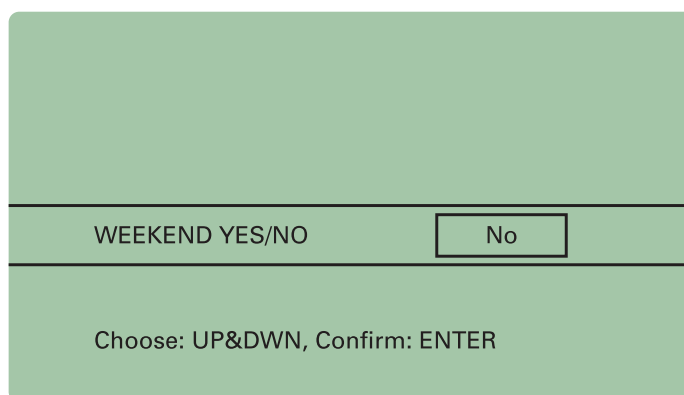

Figure 125. Display: Weekend turned off for weekly Cold D.
- Use the arrow keys (Fig. 114.5 and 114.6) to select either “Yes” or “No” (Fig. 125).